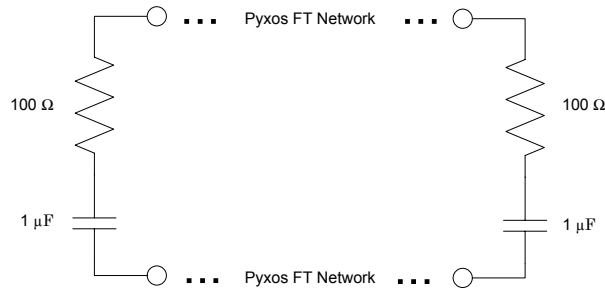

Figure 2. Network Terminators for a Bus-Topology Pyxos FT Network
3. For a bus-topology Pyxos FT network, attach two network terminators, as shown in **Figure 2** on page 7, one at each end of the network.